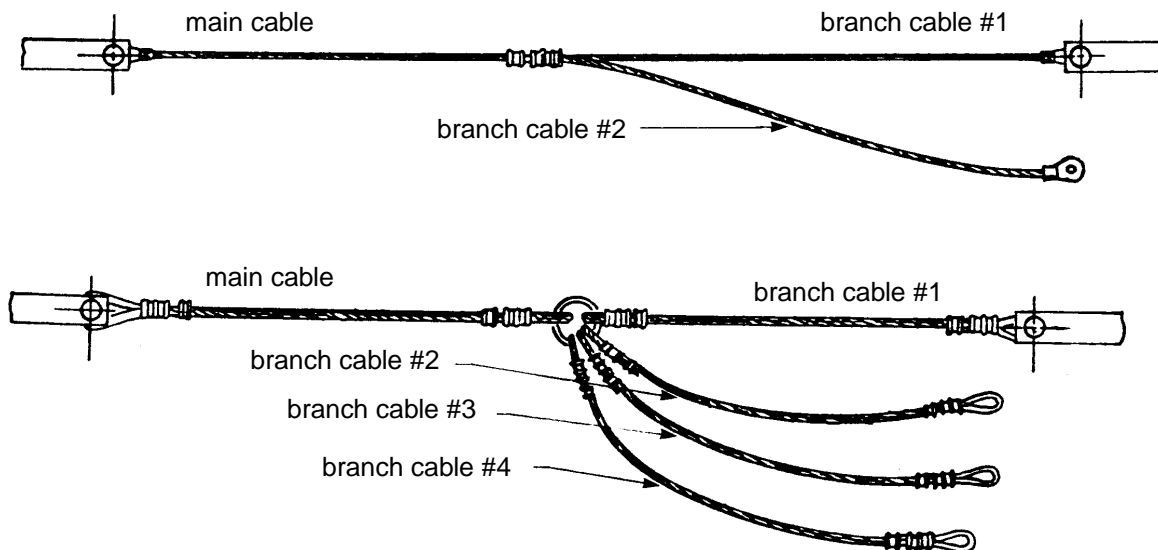

Figure 8 - Cable Assemblies with Main Cable and Branch Cables Attached
5.3.1 Set-up cable assemblies comprised of a main cable with attached branch cables (as shown in Figure 8) for proof loading by anchoring the free end of the main cable to the sliding cradle and anchoring the free end of one of the branch cables to the adjustable cradle, according to section 5.2.